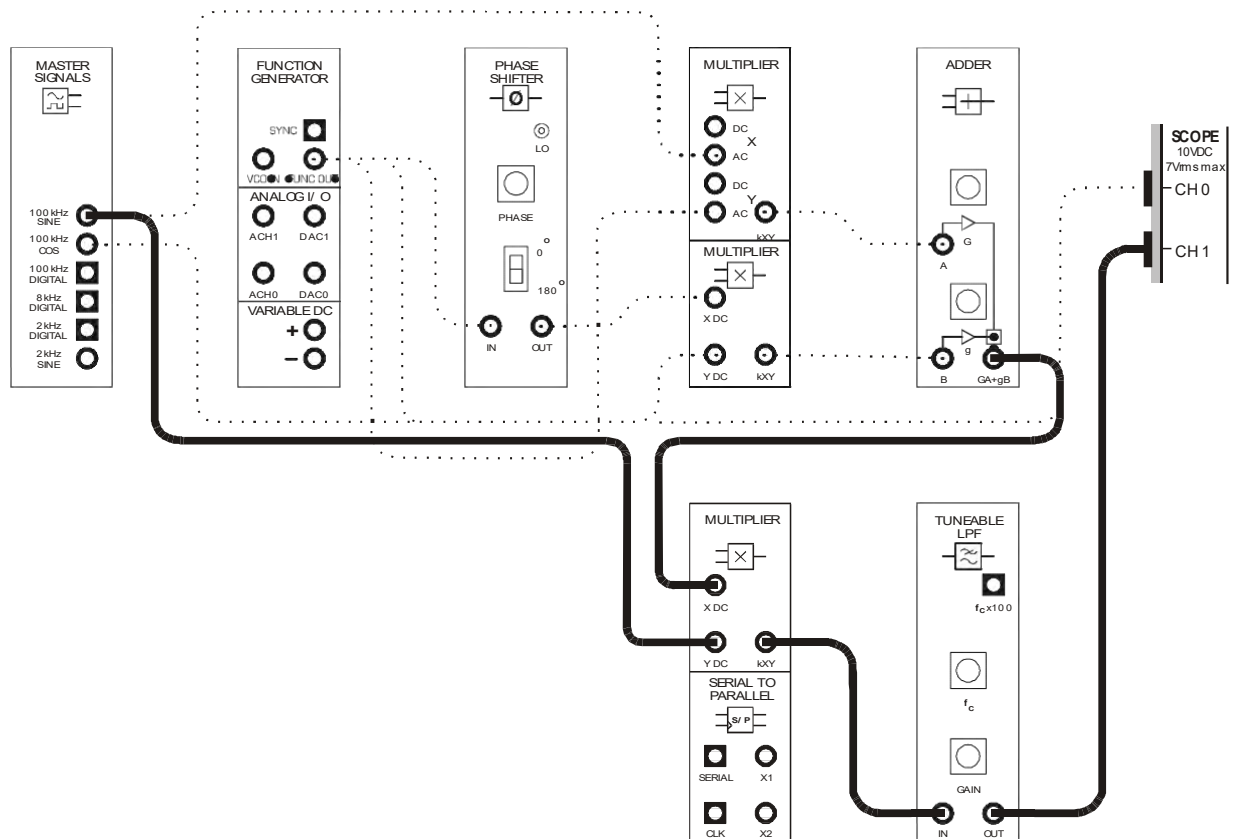
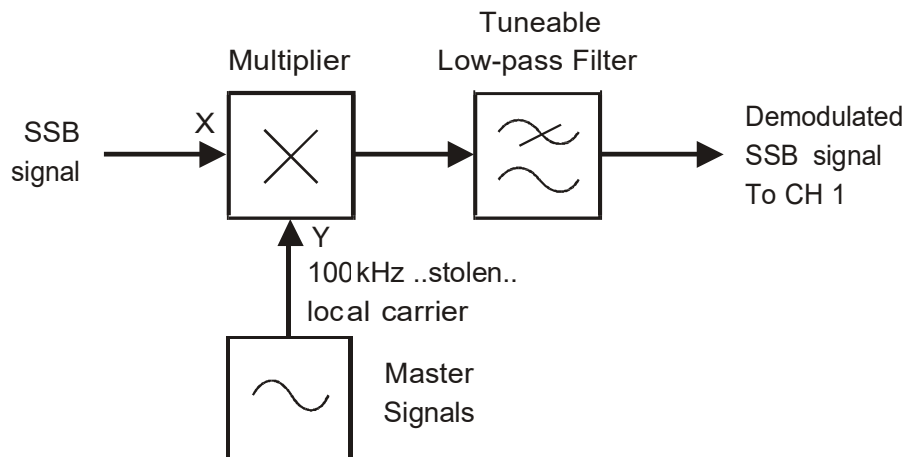

Figure 9
Figure 10
51. Modify the set-up as shown in Figure 9 below.
The additions to the set-up shown in Figure 9 on the previous page can be represented by the block diagram in Figure 10 below. The Multiplier and Tuneable Low-pass Filter modules are used to implement a product detector which demodulates the original message from the SSB signal.